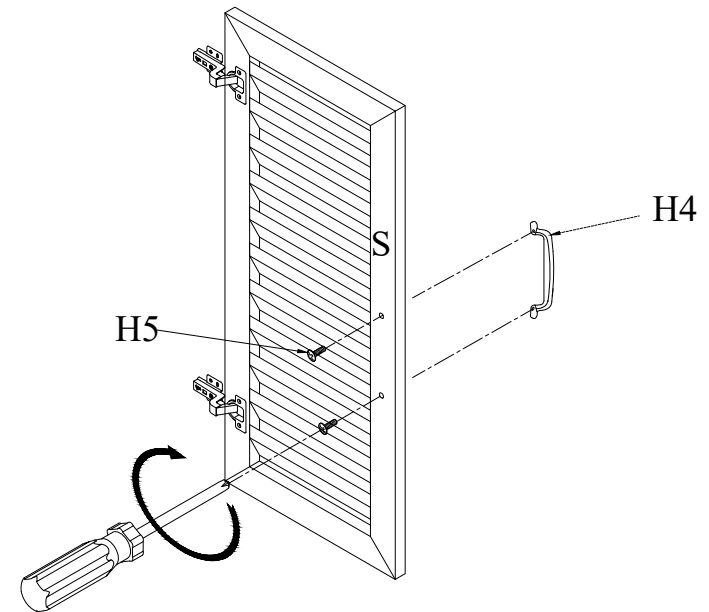

Figure 15
With assistance from another adult, hold Right door (S) vertically and attach Knob (H4) to the middle of Right door (S) with Small bolt (H5) using screwdriver (Not provided) as shown in figure 15. Repeat this process to attach Knob (H4) to Left door (R).